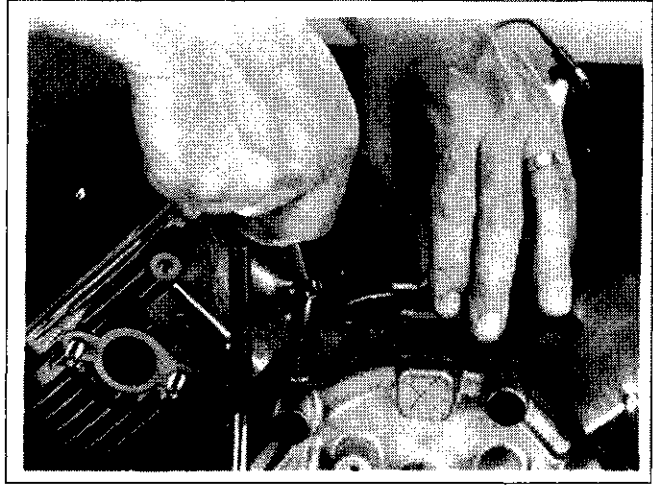

Figure 11-68. Adjusting Governor Arm.
4. Insert a nail into the hole on the cross shaft and rotate the shaft **COUNTERCLOCKWISE** as far as it will turn, then tighten hex. nut securely. See Figure 11-68.